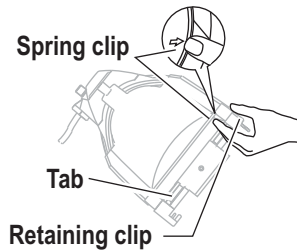

Figure 7
Step 3: Tilt the front of the fixture down at least 45°. See Figure 7.